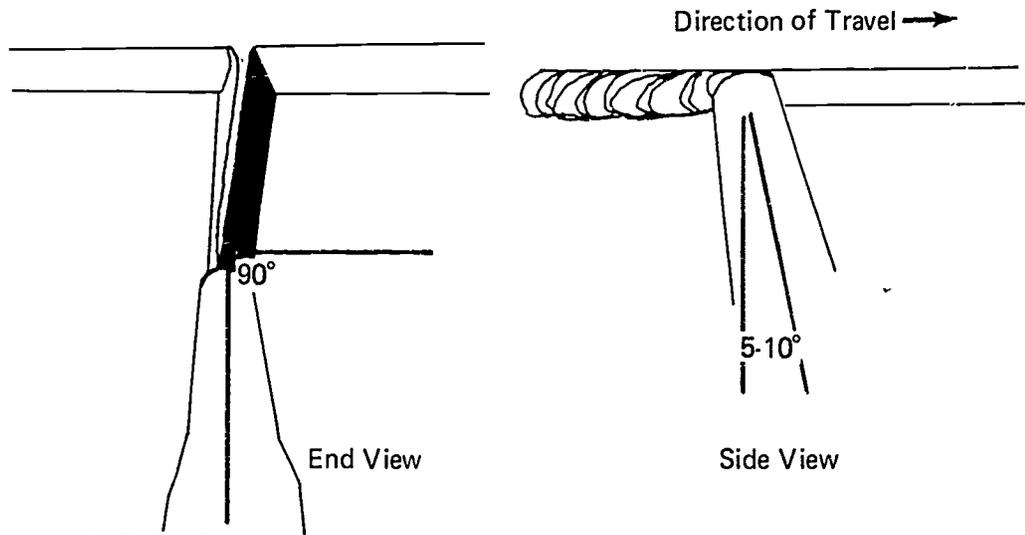

FIGURE 6
- H. Position electrode straight into joint and angled 5° - 10° in direction of travel (Figure 6)